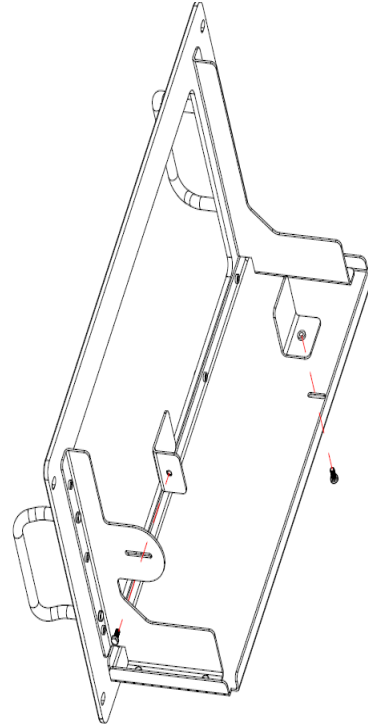

Figure 3
4.固定仪器：用 2 个固定件把仪器压紧，用 2pcs M4\*10 的螺钉来固定，见图 3；
Fixed instrument: press the instrument with two fixed parts, and fix it with 2pcs M4\*10 screw, as shown in figure 3;